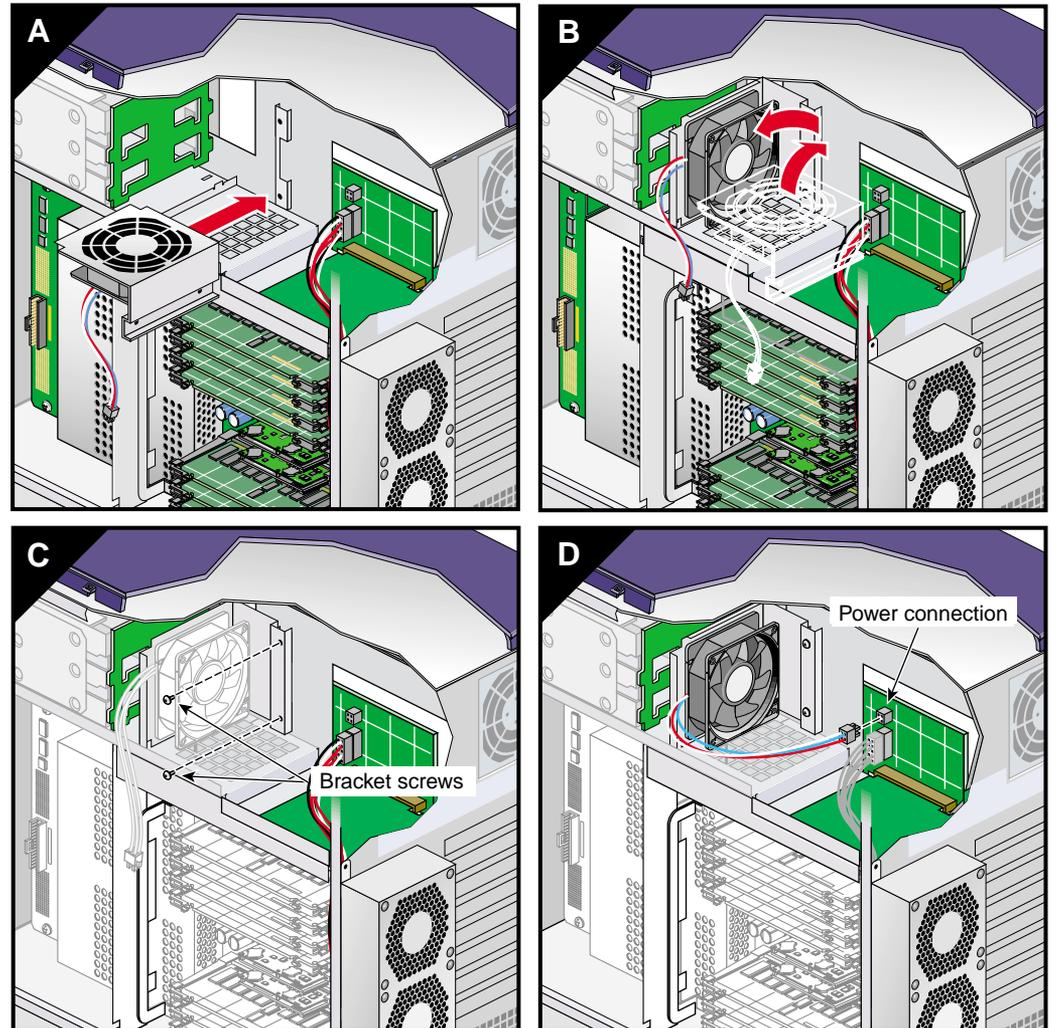

Figure 3-35 Installing the Hard Disk Drive Fan
3. Insert the new fan assembly into the enclosure (see Figure 3-35).
- Align the screw holes in the fan bracket with the holes in the enclosure frame. Ensure that the front edge of the fan bracket has engaged with the fan bracket hook. Then install the screws that secure the fan bracket to the enclosure (see Figure 3-35).
- Connect the disk drive fan power cable to the interface board (see Figure 3-35).